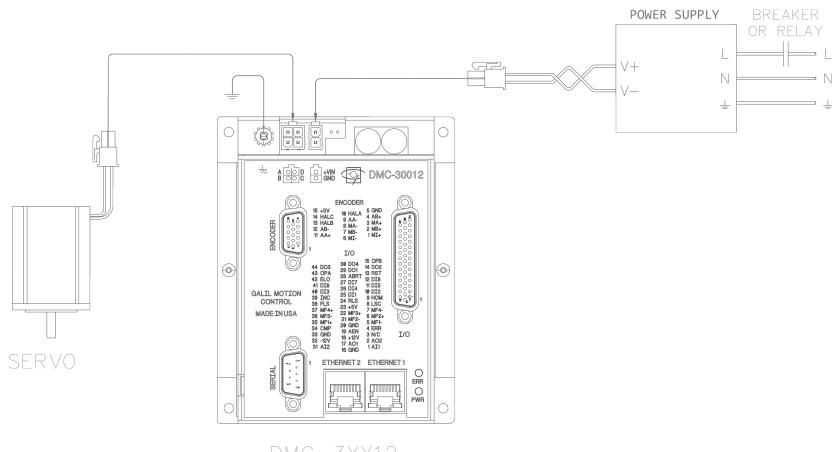

Figure 2.5: Power Supply Wiring with AC Disconnect
**NOTE:** Any emergency stop or disconnect switches should be installed on the AC input to the DC power supply. Relays and/or other switches should not be installed on the DC line between the Galil and the Power supply. An example system is shown in Figure 2.5 with a DMC-30012.